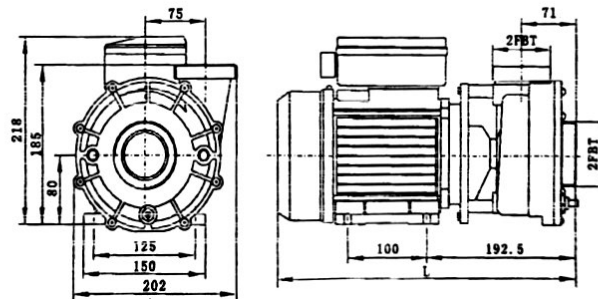

Fig.2
- Pumps must be level installed, Dimensions and position of the pump for supporting and fixing the pump within this space (Fig.2).